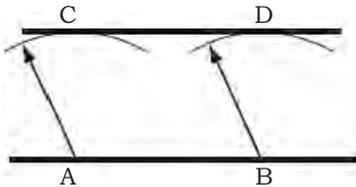

Fig. 1.14: Drawing parallel lines
- In case the parallel line is to be drawn, which passes through the point C, then draw a perpendicular from point C to the line meeting at A. Set the compass opening equal to the length of the perpendicular CA, draw an arc from the point B and mark highest point or point of tangency on the arc D and join CD. Alternatively, a perpendicular can be drawn from point B and cut this perpendicular at the same length as CA to obtain point D (Fig 1.14).